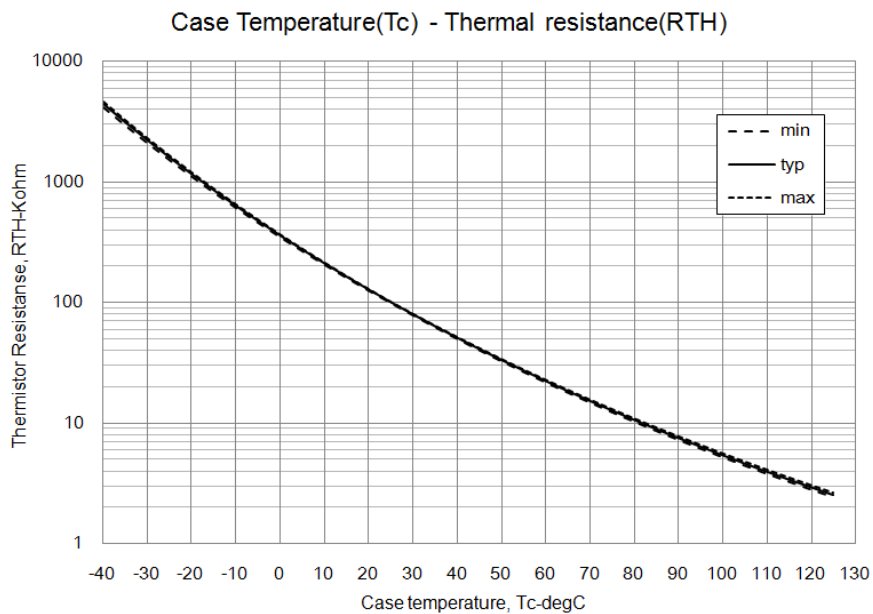
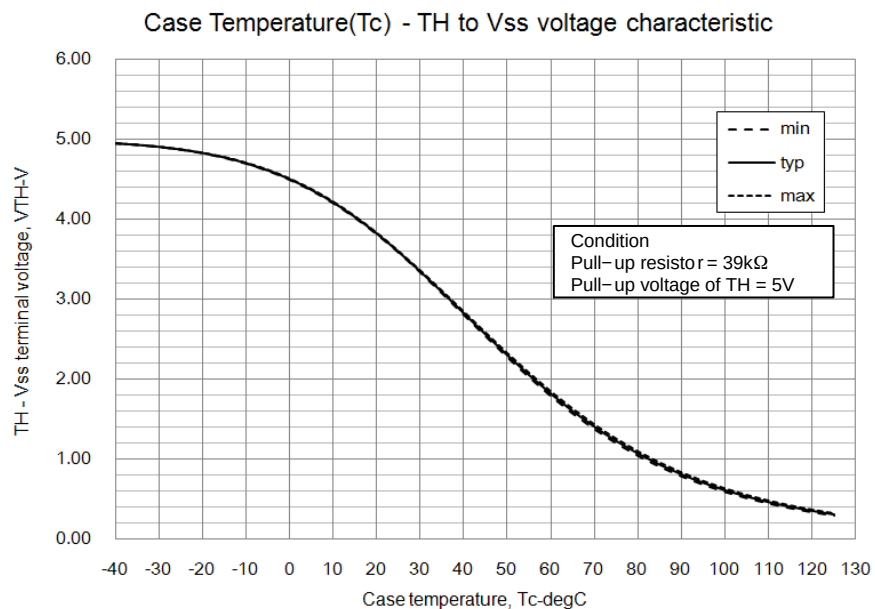

Figure 11. Thermistor Resistance versus Case Temperature
Figure 12. Thermistor Voltage versus Case Temperature
5. Inside the IPM, a thermistor used as the temperature monitor for internal substrate is connected between  $V_{SS}$  terminal and TH terminal, therefore, an external pull up resistor connected between the TH terminal and an external power supply should be used. The temperature monitor example application is as follows, please refer the Fig.11, and Fig.12 below.